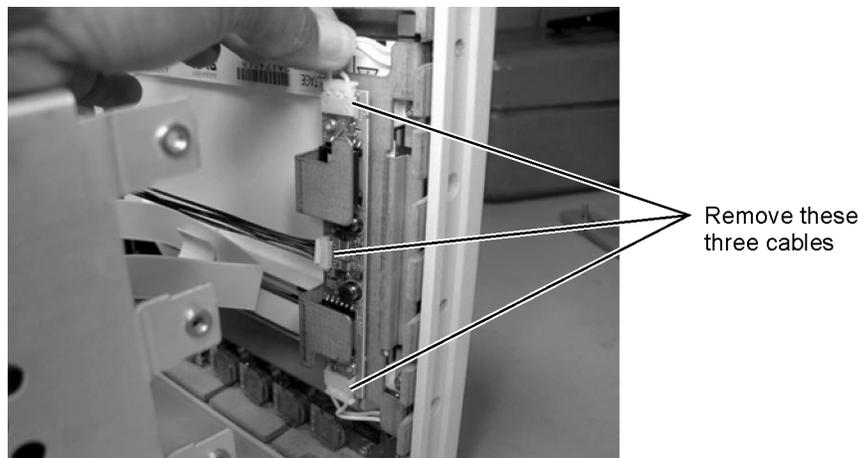

Figure 4-29. Removing the Cables from the Inverter Board
- 5 Disconnect the three cables, as shown in Figure 4-29